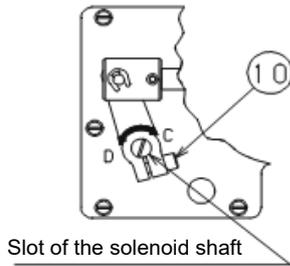

Fig. 24
Tighten the solenoid arm A tightening screw to secure the solenoid arm A. Then, depress the back part of the pedal and check the presser lifting amount. The presser lifting amount varies depending on the specifications of the sewing machine, so check the “Presser lifting amount by model” table below. If it is significantly different from the standard adjustment value, loosen the solenoid arm A tightening screw ⑩ (one place), insert a screwdriver into the slot on the end face of the solenoid shaft, turn the solenoid shaft, and tighten the solenoid arm A tightening screw ⑩ (one place). Then depress the back part of the pedal again and check the presser lifting amount. (Fig. 24)